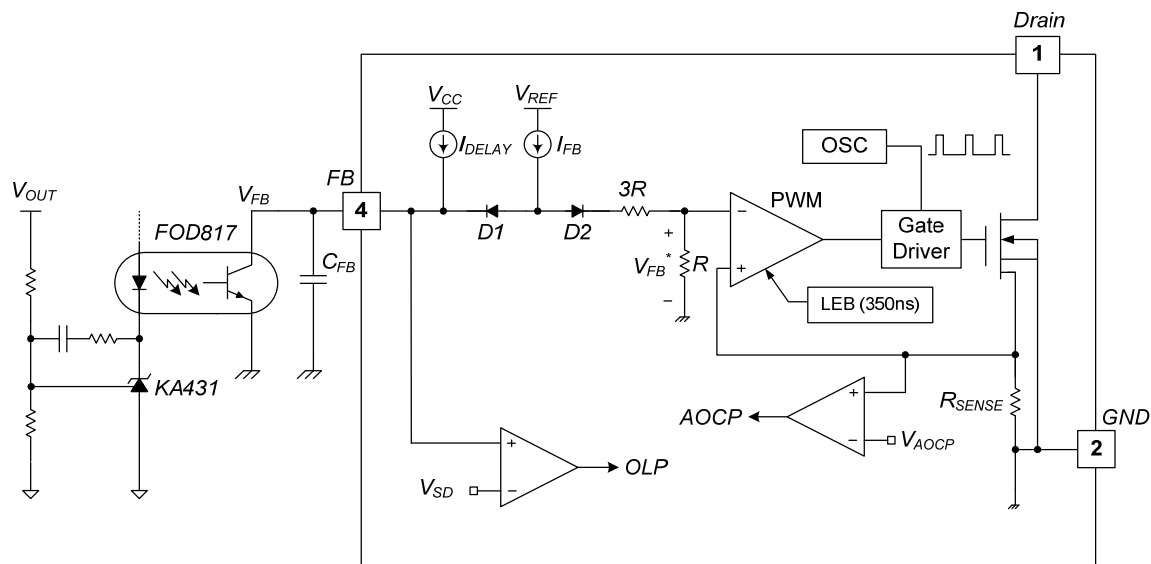

Figure 18. Pulse Width Modulation Circuit
3. Feedback Control: This device employs Current-Mode control, as shown in Figure 18. An opto-coupler (such as the FOD817) and shunt regulator (such as the KA431) are typically used to implement the feedback network. Comparing the feedback voltage with the voltage across the R_{SENSE} resistor makes it possible to control the switching duty cycle. When the reference pin voltage of the shunt regulator exceeds the internal reference voltage of 2.5V, the opto-coupler LED current increases, pulling down the feedback voltage and reducing drain current. This typically occurs when the input voltage is increased or the output load is decreased.
3.1 Pulse-by-Pulse Current Limit: Because Current-Mode control is employed, the peak current through the SenseFET is limited by the inverting input of PWM comparator (V_{FB}^*), as shown in Figure 18. Assuming that the 90 μ A current source flows only through the internal resistor ($3R + R = 27k\Omega$), the cathode voltage of diode D2 is about 2.4V. Since D1 is blocked when the feedback voltage (V_{FB}) exceeds 2.4V, the maximum voltage of the cathode of D2 is clamped at this voltage. Therefore, the peak value of the current through the SenseFET is limited.